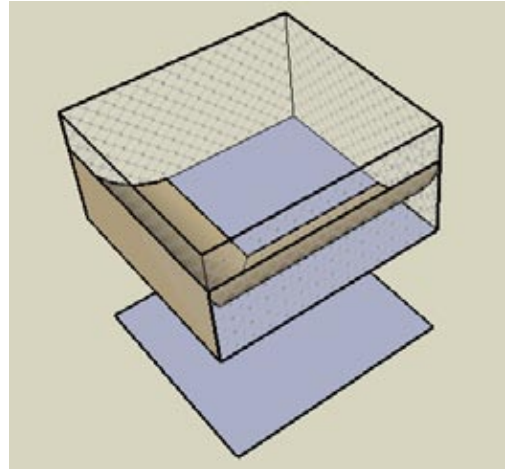

Figure 4-54
7. With this path defined, run Follow Me on the arc face. Here you can see the second problem: the Follow Me faces interfere with one another. The arc faces were not completed, and the face with the steps has disappeared (Figure 4-54).